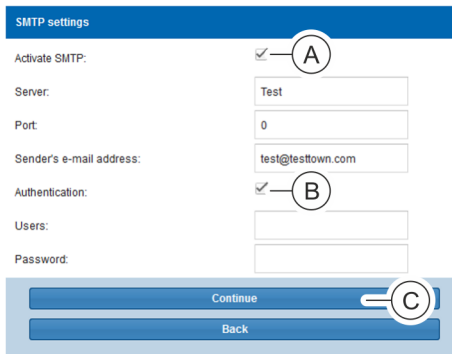

Fig. 49: "SMTP settings" window
21. If required, click the 'Activate SMTP' checkbox (Fig. 49/ⓐ) and enter a server address, a port and a sender's e-mail address.
22. If required, activate the 'Authentication' checkbox (Fig. 49/ⓑ) and define a user and password.
23. Confirm the entries by clicking the 'Continue' button (Fig. 49/ⓒ).